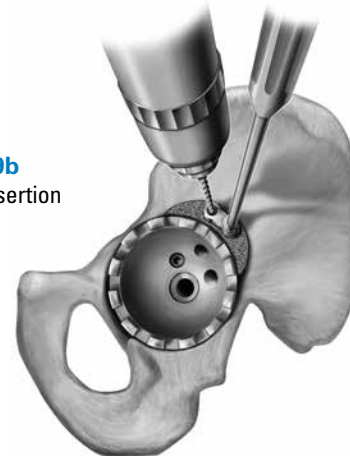

Figure 9b
13. Drill pilot holes using a 3.2mm Drill and the **Augment Drill Guide** (*Figure 9b*).